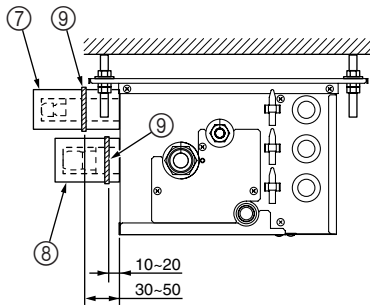

Fig. 7-4
- Ⓖ Pipe covers ③ ④ ⑤ ⑥
- ① Thermal insulation for refrigerant piping
- ② Refrigerant piping
► Use the following procedures for indoor connection part which indoor unit is not connected. (Fig. 7-4)
- (1) In order to prevent refrigerant leaks, make sure that the flare nuts are tightened according to the specified torques* in Table 3.
- (2) In order to prevent condensation, install the pipe covers ⑦ ⑧ and fasten them with the supplied bands ⑨.